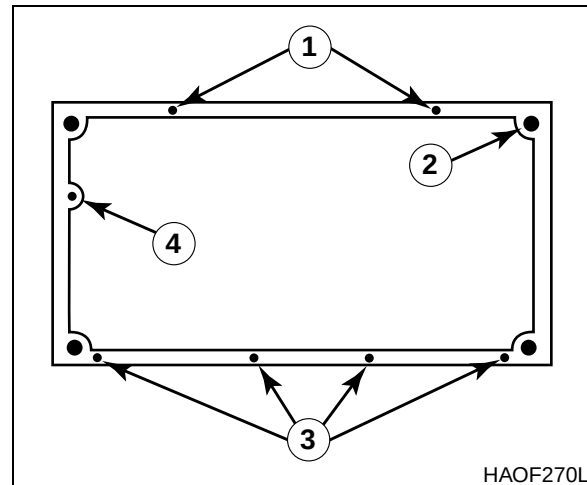

Figure 9
3. Install four mounting nuts on four corners of cabin floor (2, Figure 9).
4. Install four hex bolts (3, Figure 9) in door side of cabin floor.
5. Install two hex bolts (1, Figure 9) in right side of cabin floor and one bolt (4) in front of cab floor.